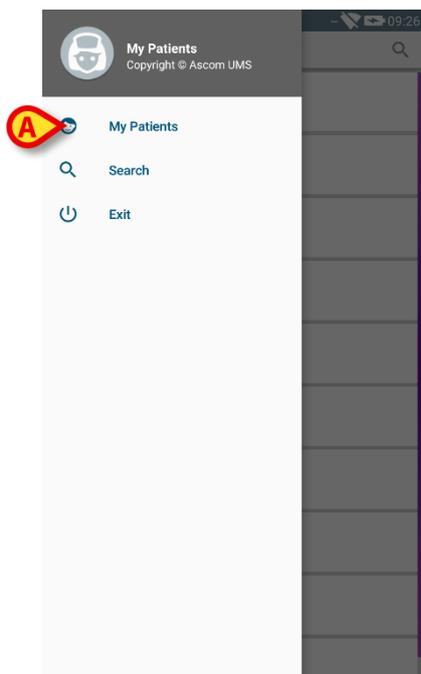

Fig 160
The following menu will open (Fig 160).
- Touch **My Patients** (Fig 160 **A**).